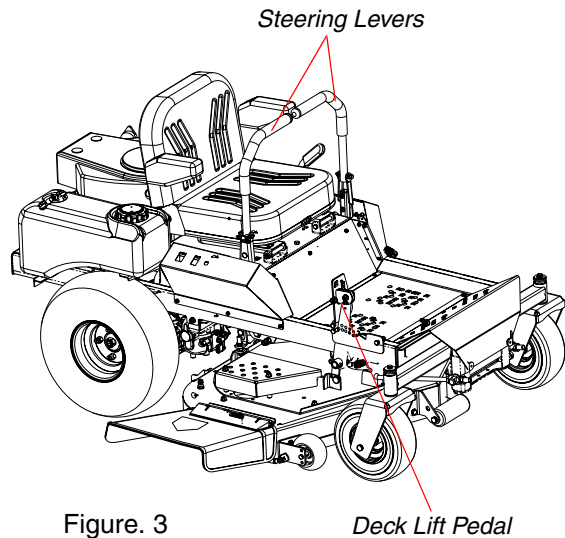

Figure. 3
3. **Left and Right Steering Levers:** (See Figure 3.) These hinged levers open out to the side in any position to permit the operator to be seated or to leave the mower's seat. The operator, when seated, can pull the levers up to the operating position, a comfortable forearm's length away. These levers control all of the movements of the mower. Pushing both levers forward causes the mower to move forward. Pulling both levers back causes the mower to move backward. Pushing one lever ahead of the other lever causes the traction wheel on the side where the lever is ahead to rotate faster than the other traction wheel, making the mower turn toward the side where the lever is behind. When one lever is pushed forward and the other lever pulled back the same amount, one traction wheel will turn in reverse and the mower will turn within its own length.
5. **Parking Brake:** (See Figure 3.) Located on the left side of the traction unit. The handle is an overcenter lever which applies the drum brakes on the drive wheels when the handle is pulled to the rear. The brake must be engaged in order to start the engine.
6. **Deck Lift Pedal:** (See Figure 3.) Located on the panel in front of the seat. Raise the mowing deck to the transport position, by pushing the upper part of the pedal. To lower the mowing deck, push on the upper part of the pedal and lower it to the desired position.